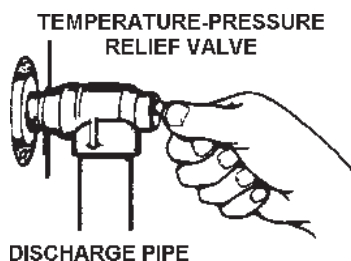

FIGURE 9.
When checking the temperature-pressure relief valve operation, make sure that (1) no one is in front of or around the outlet of the temperature-pressure relief valve discharge line, and (2) that the water discharge will not cause any property damage, as the water may be extremely hot, see Figure 9.